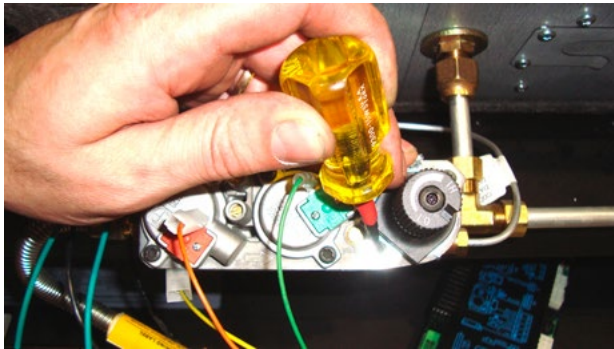

Figure 4 Replace Hi-Lo knob on valve
1. Using a Torx T20 or slotted screw driver, remove the two screws that are attached to the Hi-Low knob on the Gas Control Valve (Figure 4) and discard the screws and the knob (Figure 5). Remove gasket and discard.